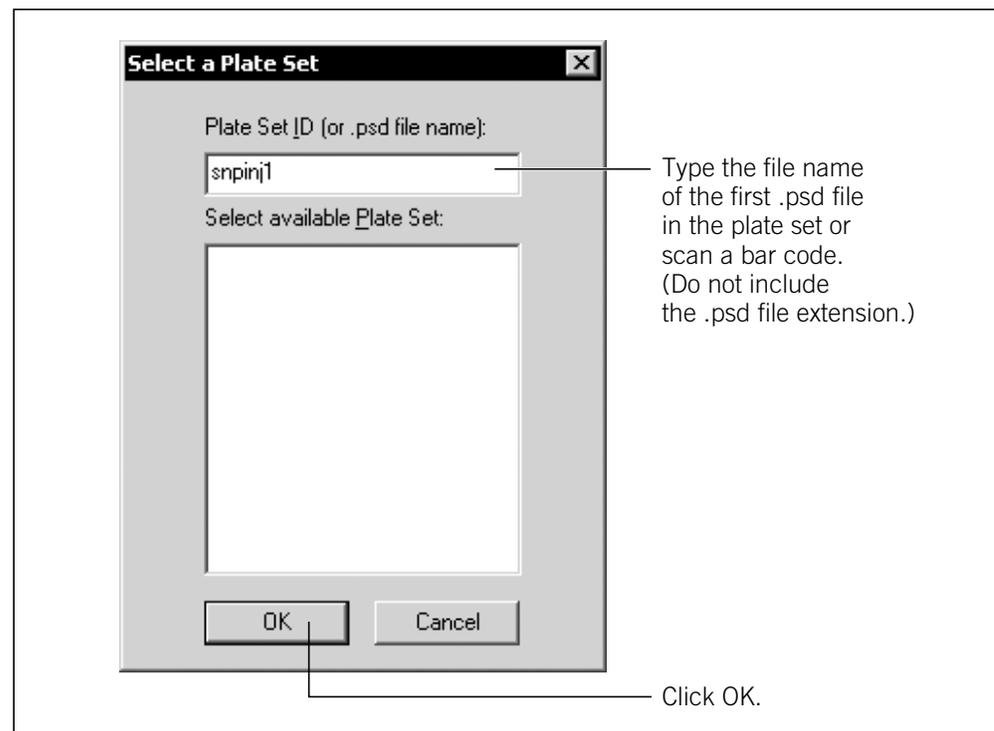

Figure 15-7. The Select a Plate Set window.
1. In the Instrument Control window, with the **Inject Samples and Run** protocol selected, click **Start**. The Select a Plate Set window appears (figure 15-7).